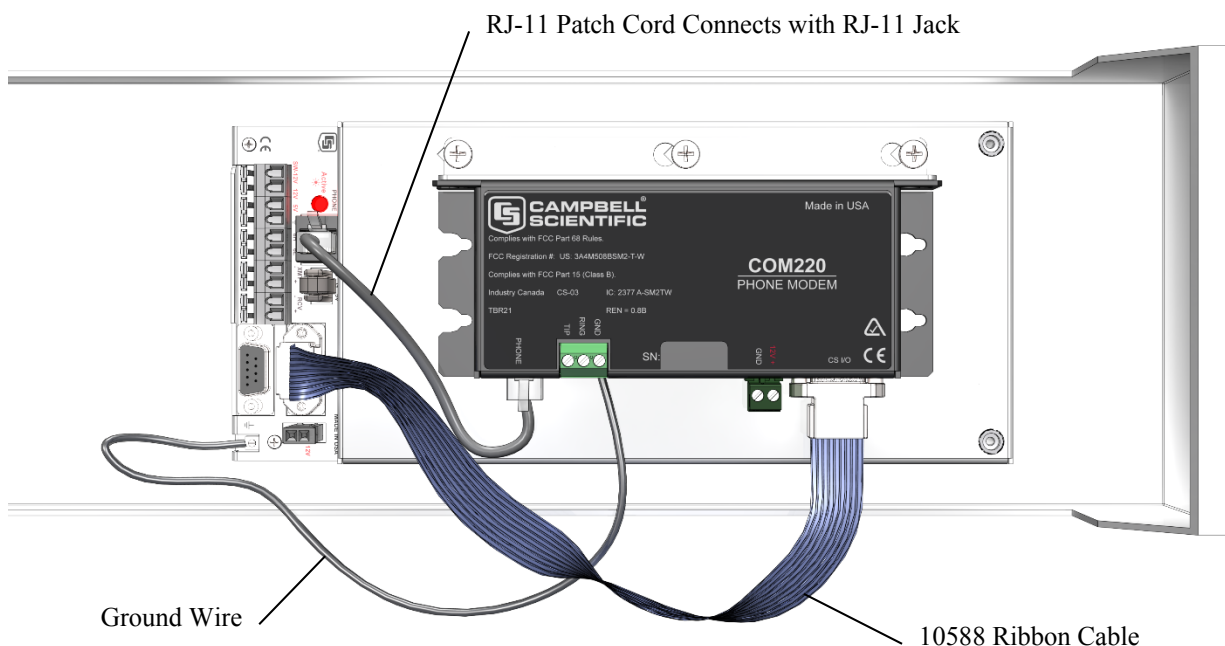

FIGURE 2-24. Phone Modem Mounting and Connections (battery not shown)
Install the phone modem as shown in FIGURE 2-24.
2. Connect the modem 9-pin port to the ET Enclosure CS I/O port with the pn 10588 ribbon cable supplied with the ET Enclosure (see FIGURE 2-23 and FIGURE 2-24).
3. Connect the modem RJ-11 jack to the ET Enclosure RJ-11 jack with the RJ-11 patch cord (see FIGURE 2-24).